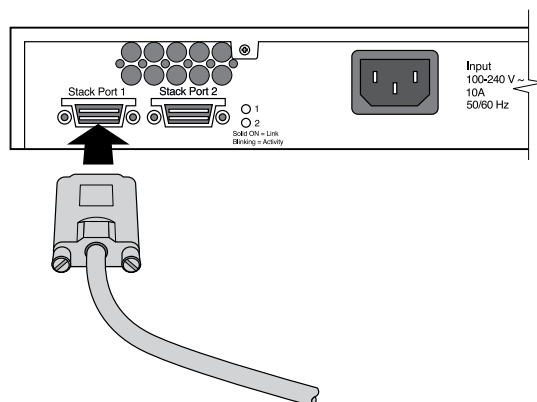

Figure 208: Connecting the 20G Connector
- a Align the cable connector with the stacking port connector on the back of the switch (see Figure 208: Connecting the 20G Connector on page 239).